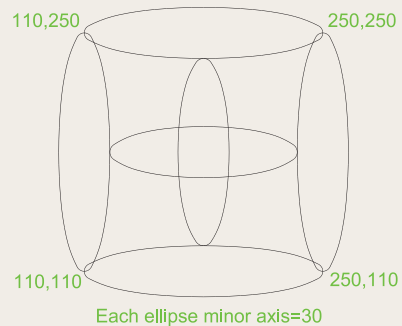

Fig. 3.49 Exercise 5
- With the **Ellipse** tool, construct the drawing shown in Fig. 3.49.